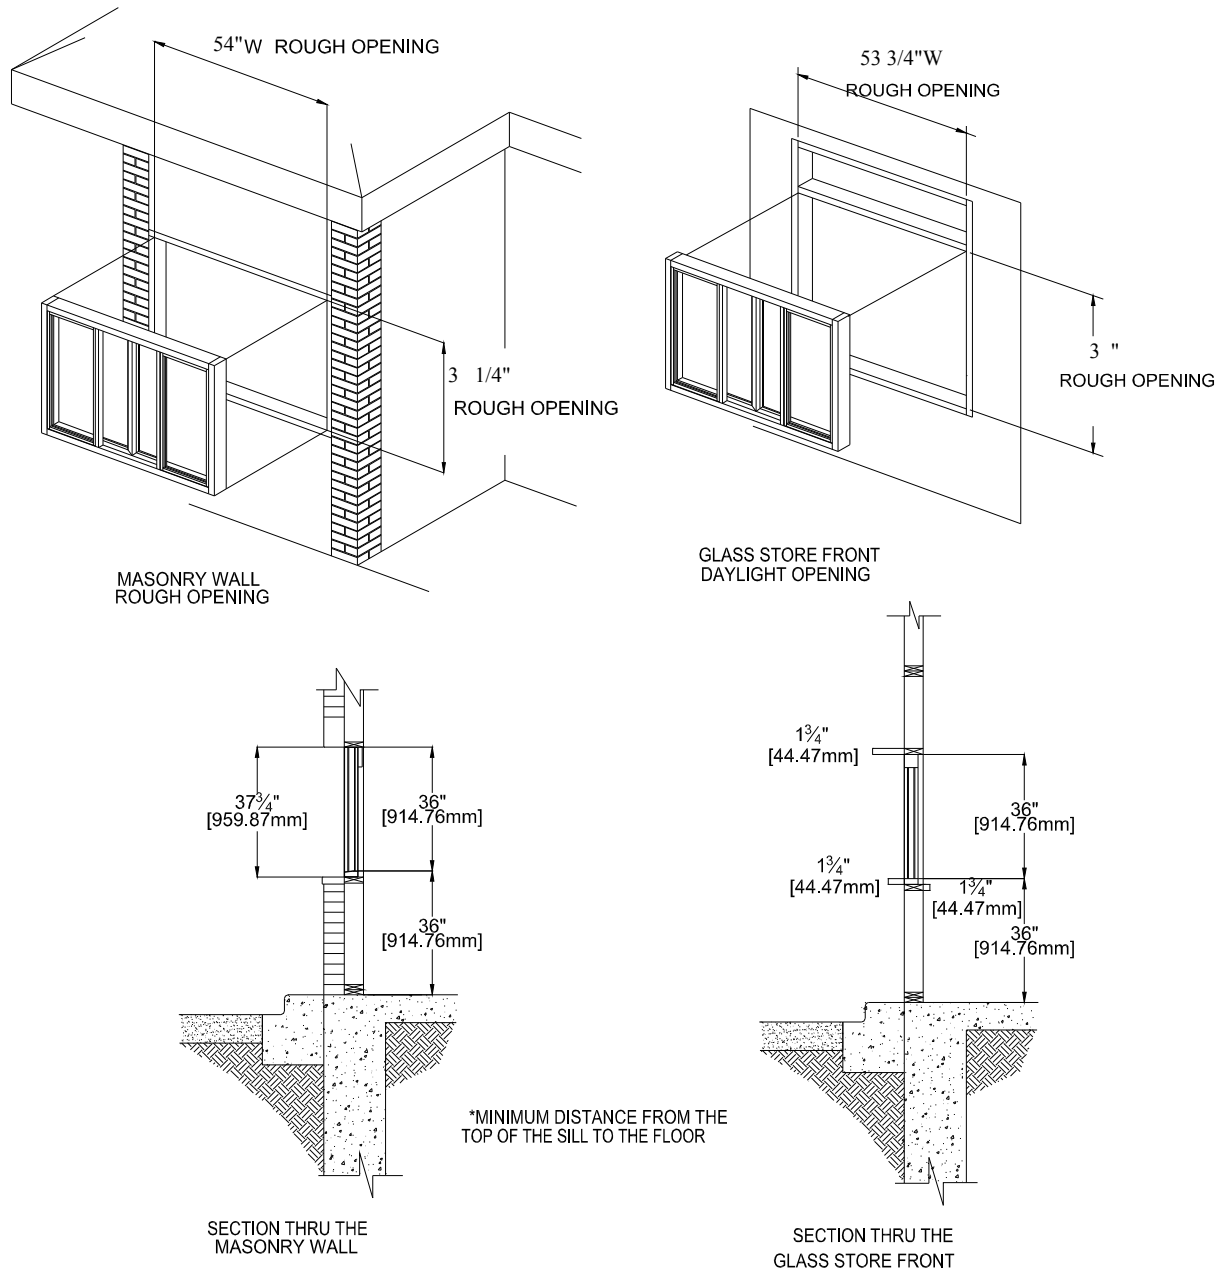
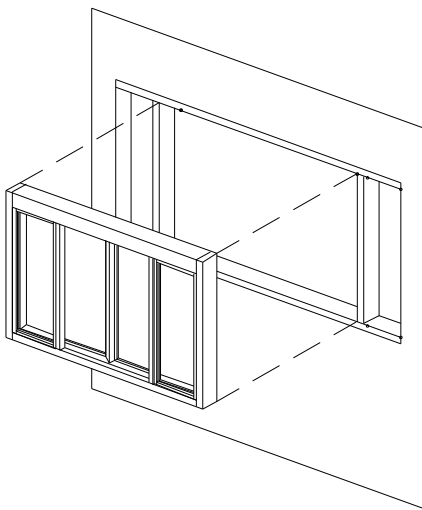

FIGURE 2
Figure 3
NOTE: There are two wall-mounting applications. The mounting space can be surrounded either by sidelights (windows) or masonry. In both cases the upper part of the window above the counter top (window sill) fits flush with the outside of the wall. (See Figure 2) The illustrations will show the walls with the sidelights, as this is the most common application. (Figure 3)
5. Position the window and place it into the customer-supplied frame. As shown in Figure 3 and 4